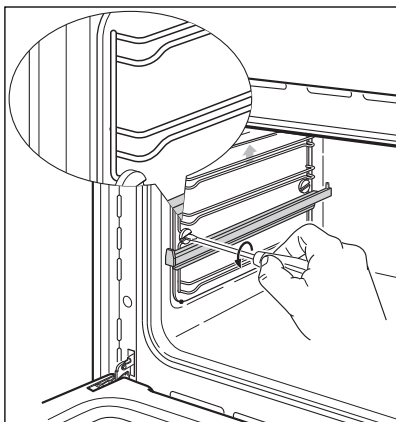

Fig.17 Removing the lower oven side racks and catalytic panels (some models only)
The catalytic panels are covered with a special microporous enamel which absorbs and does away with oil and fat splashes during normal cooking over 200 °C. If, after cooking very fatty foods, the panels remain dirty, heat the oven on maximum for an hour to an hour and a half, and they will self-clean. The side panels are reversible. Make sure that you replace them with the arrow up, and on the correct side. To remove the side catalytic panels you first need to unscrew the side racks. See Fig. 17.
When you replace the panels, make sure that the arrows are pointing upwards. Then screw the side racks back onto the oven wall. Ensure they are the right way up (Fig. 17).
- 1 Remove the side racks by unscrewing the fixing screws (Fig. 17).
- 1 Screw the side racks onto the oven wall. Ensure they are the right way up (Fig. 17).